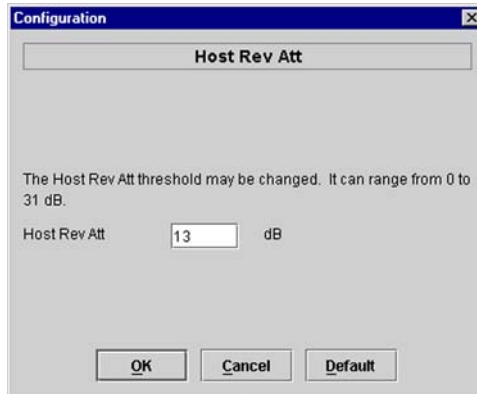

Figure 3-12. Host Rev Att Pop-Up Screen
5. Click on the **Host Rev Att** field **Edit** button (see Figure 3-11). The **Host Rev Att** pop-up screen will open as shown in Figure 3-12.